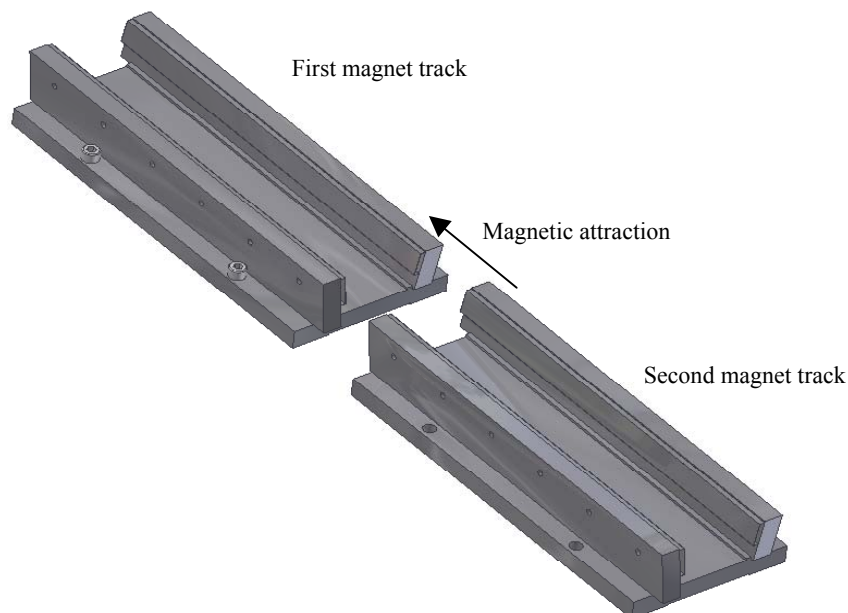

Figure 14
- (3) Fully remove the installation handles used for transport from the magnet track.
- (4) When joining magnet tracks together, place the second magnet track temporarily in line with and at least 30 mm apart from the first magnet track. Next, while pressing the magnet track down closely on the machine's reference surface, push the second magnet track against the first magnet track and secure with bolts. Keep fingers clear to prevent them from being jammed between the magnet tracks due to the magnetic attraction pulling the magnet tracks together. (Refer to Figure 14).